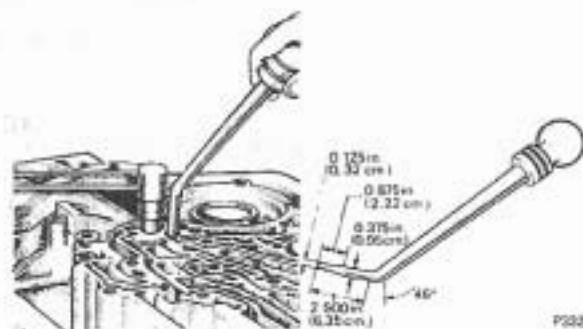

FIG. T288 LOCATING CENTRE SUPPORT
13. Bend the bar to a 45° angle 2.50 in. (6.35 cm.) from the pointed end (see Fig. T288).